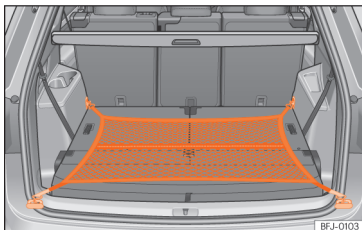

Fig. 128 In the luggage compartment: net bag hooked up at floor level.
- Secure the net hooks to the fastening rings »» Fig. 128 »» ⚠. The bag zip should be facing upwards.